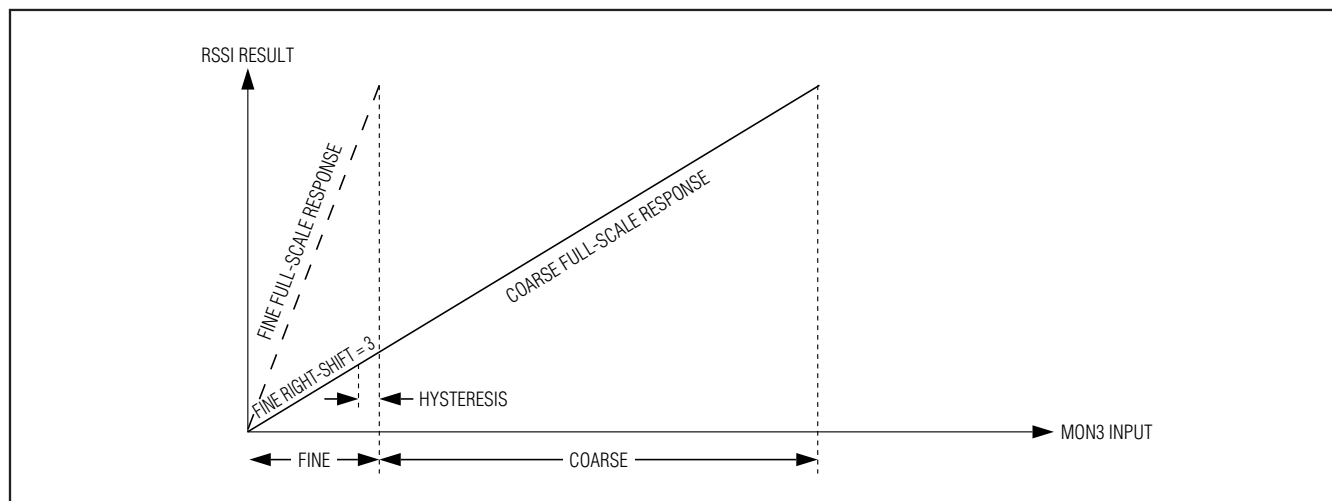

Figure 9. RSSI with Crossover Disabled
- **Crossover Disabled:** The crossover disabled mode is intended for systems with a linear relationship between the MON3 input and desired ADC result. The ADC result transitions between the fine and coarse ranges with hysteresis (Figure 9). In crossover disabled mode, the thresholds between coarse and fine mode are a function of the number of right-shifts being used. With the use of right-shifting, the fine-mode full scale is programmed to (1/2^{nth}) of the coarse-mode full scale. The device now auto ranges to choose the range that gives the best resolution for the measurement. Table 4 shows the threshold values for each possible number of right-shifts.